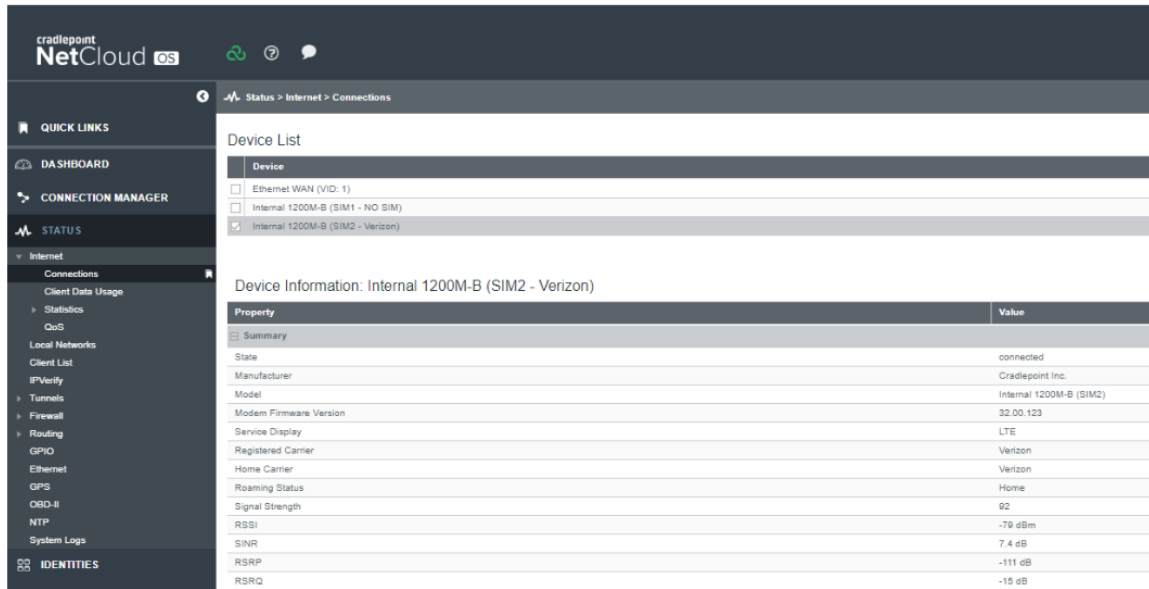

Figure 19: Select the device with a cellular SIM in Cradlepoint NetCloud.
- B. In the Device List table, select the option with a cellular SIM, as shown in Figure 19.